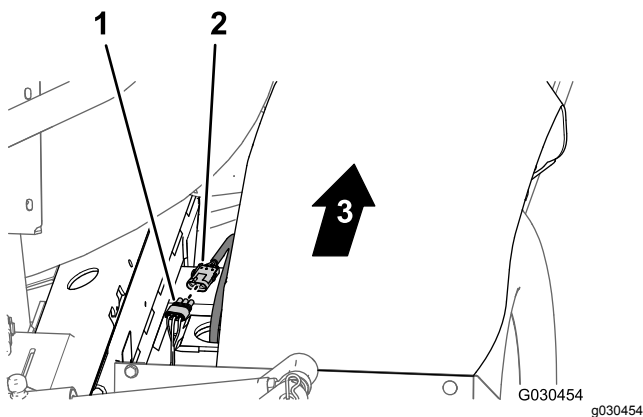

Figure 108
2. At back of the machine (between the right frame tube and the right fender) connect the 3-pin connector of the speed-sensor harness at the right hydraulic-traction motor from the 3-socket connector (unmarked) of the rear, main harness (Figure 108).